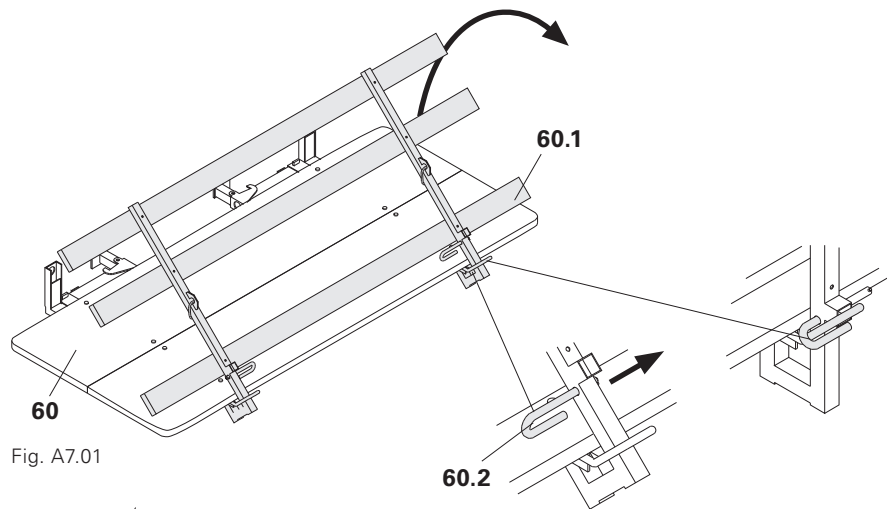

Fig. A7.01
1. Fold up guardrails (60.1) and secure with bolts (60.2). (Fig. A7.01)